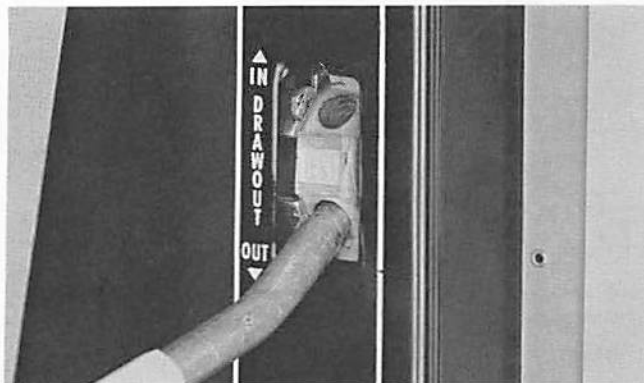

Figure 8
12. Push drawout interlock to left, insert drawout lever 1101-9251, (Figure 8) into the bottom hole of the drawout mechanism and, with an up-stroke, rack breaker into the TEST position. Remove drawout lever, drawout interlock plate should snap into position completely covering the holes.
- When putting into service push drawout interlock to left, insert drawout lever in the bottom hole of the drawout mechanism (Figure 8) and with an upward stroke rack breaker into operating position. Remove drawout lever, interlock plate should snap in position and red IN appears.